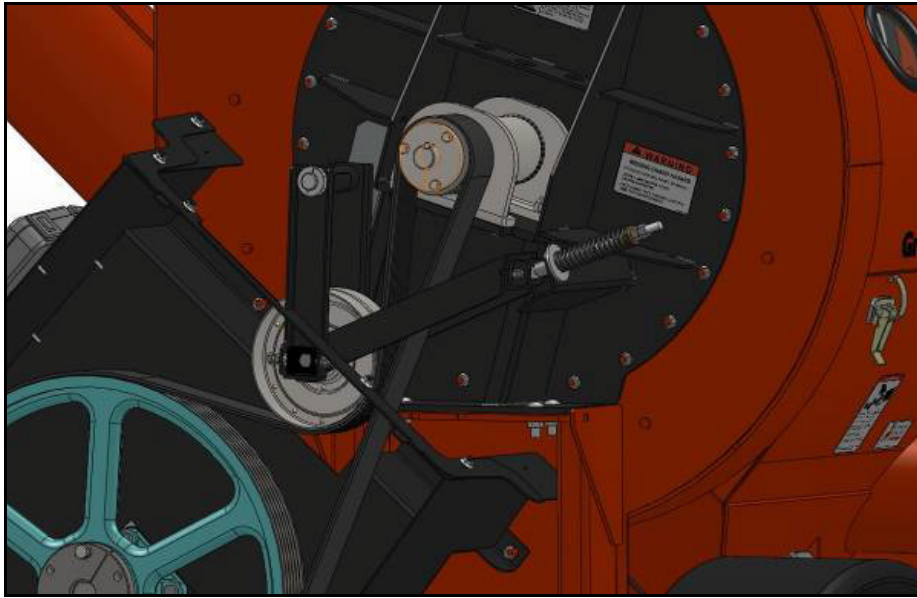

Figure 5.6 Rotor Drive Belt
5. Remove the rotor drive belt and replace with a new drive belt (see Figure 5.6). Ensure the belt is fully seated in both pulleys.